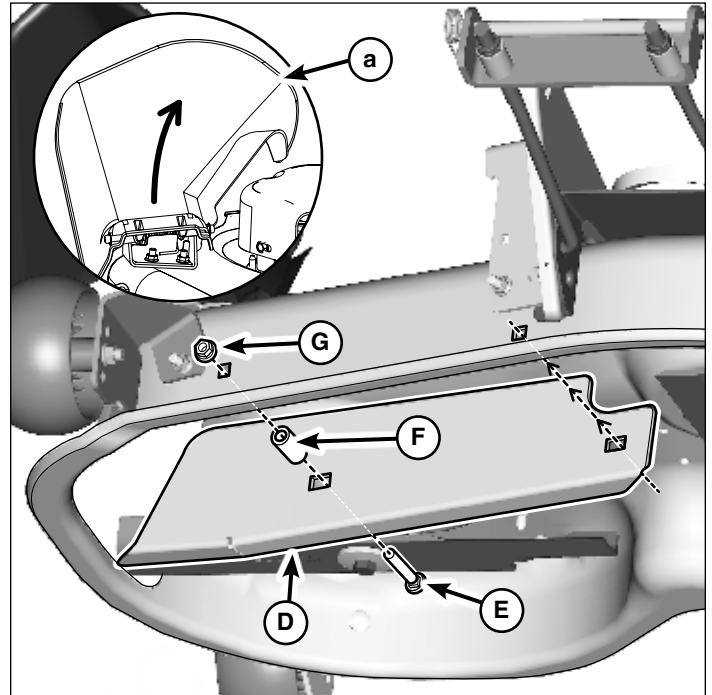

Figure 3
1. Put the deflector (**a**, Figure 3) in the vertical position.